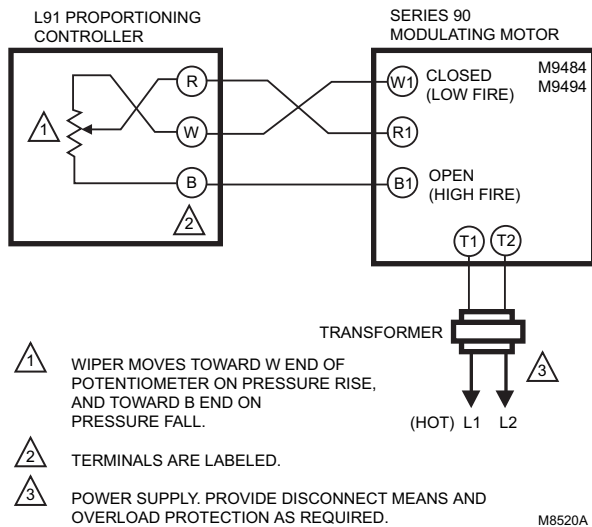

Fig. 4. Hookup of L91 Proportioning Pressuretrol® Controller to Series 90 Modulating Motor.
6. Refer to Fig. 4 for typical hookup. W and B connections may be interchanged at the motor for reverse action (cooling). Follow the burner or boiler manufacturer's wiring diagram if provided. Also refer to the wiring diagrams in the motor instructions.
A proportioning controller is used most often to regulate the firing rate of a burner by controlling a modulating motor (Fig. 4) or a modulating valve. The controller potentiometer, the feedback potentiometer in the motor (or in the valve actuator), and a balancing relay in the motor (or actuator) form an electric bridge circuit. As long as the pressure of the controlled medium remains at the setpoint of the controller, the circuit is balanced; that is, equal the relay contacts are open. When the circuit is balanced, the motor (or actuator) does not run.